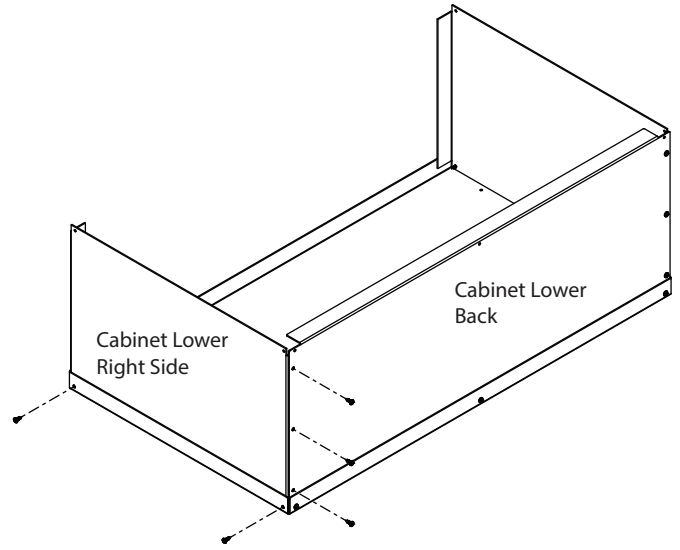

Figure 6.3
3. Assemble cabinet lower right side to cabinet base and cabinet lower back using 5 screws. See Figure 6.3.